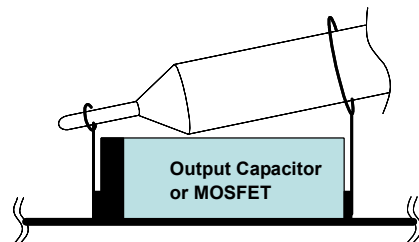

Figure 3. Proper Probe Set-Up to Measure Output Ripple and Phase Node Ringing
- (2) Turn on the power supply.
- (3) Adjust input voltage V_{IN} within the specified range and observe the output voltage. The output voltage variation should be within 3%.
- (4) Adjust the load current within the specified range and observe the output voltage. The output voltage variation should be within 3%.
- (5) Use an oscilloscope to observe output voltage ripple and phase node ringing. For accurate measurement, refer to Figure 3 for proper test setup.